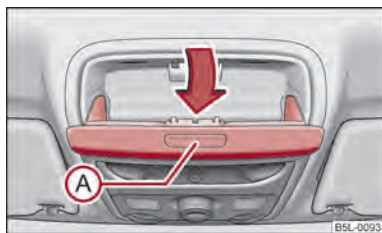

Fig. 80 Detail of the headliner: Stowage compartment for spectacles
- Press the button **(A)** ⇒ fig. 80, the storage compartment folds down.